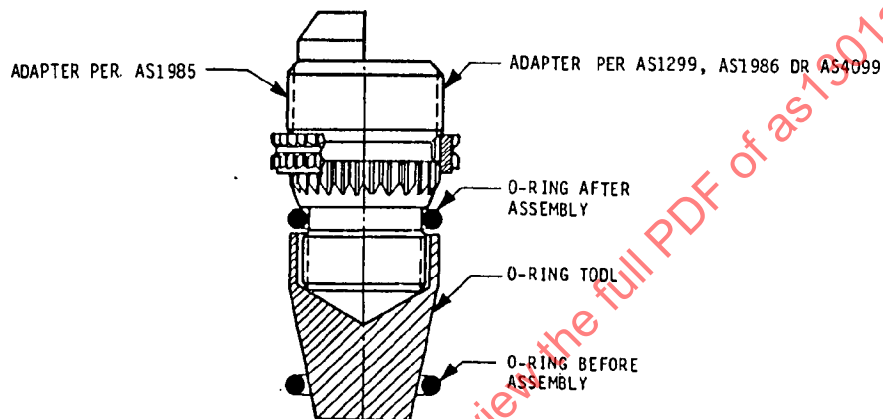

FIGURE 2
- 4.1.1 Place the o-ring tool (per Table II) over the small thread of the fitting. Submerge the adapter, bullet and o-ring in the fluid to be used in the working system, or a lubricant compatible with the system fluid and all components. Slide the o-ring over the bullet and onto the fitting. Be sure that the o-ring is not twisted and is properly seated in the groove of the fitting. See Fig. 2.